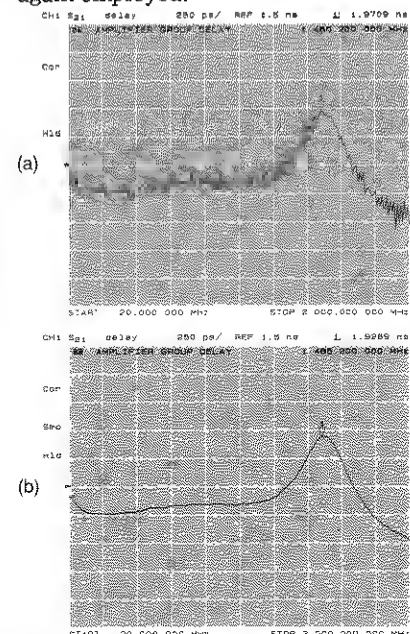

Figure 9. Group delay measurement: (a) with minimum aperture and (b) with increased aperture.
Group delay, like deviation from linear phase, is a measure of amplifier distortion. The HP 8753 calculates group delay from the phase and frequency information and displays the results in real time (see Figure 9). It is important to keep the phase difference measured between two adjacent frequency points less than 180°. Otherwise, incorrect group delay information may result. The test setup of Figure 3 is again employed.
3. This measurement may require a specific group delay aperture. The minimum aperture is equal to the frequency span divided by the number of points minus one (see Figure 9-a). Aperture can be increased from the minimum by varying the smoothing aperture. Increasing the aperture reduces the resolution demands on the phase detector and permits better group delay resolution (see Figure 9-b).